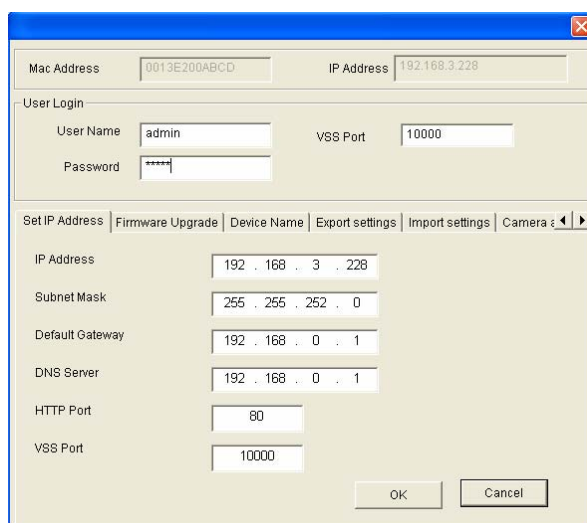

Figure 6-3
- Double-click the GV-Video Server in the list. Figure 6-3 appears.
1. In Figure 6-3, click the **Import Settings** tab. This dialog box appears.